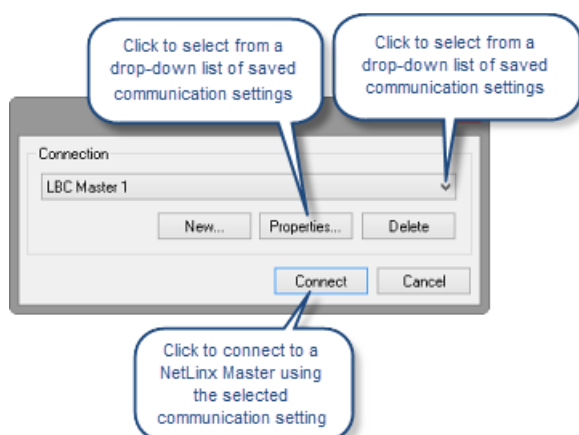

FIG. 412 Connection Settings dialog
7. Click **OK** to save these settings and return to the *Connect* dialog (FIG. 412):